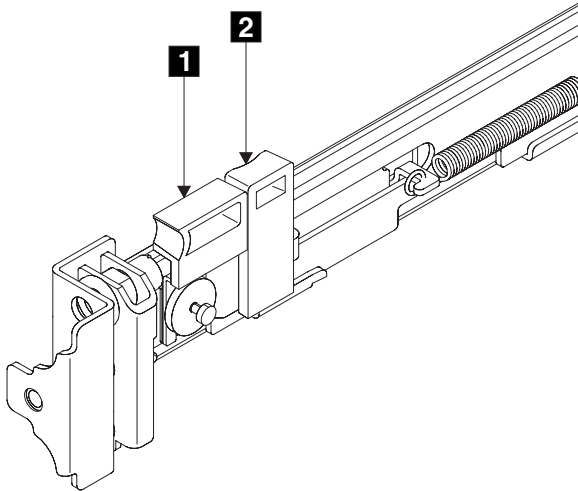

Figure 60. Retracting the latch-lock carrier
2. Put your index finger against the side of the latch-lever, **1** in Figure 60, and put your thumb against the front of the latch-lock **2**.